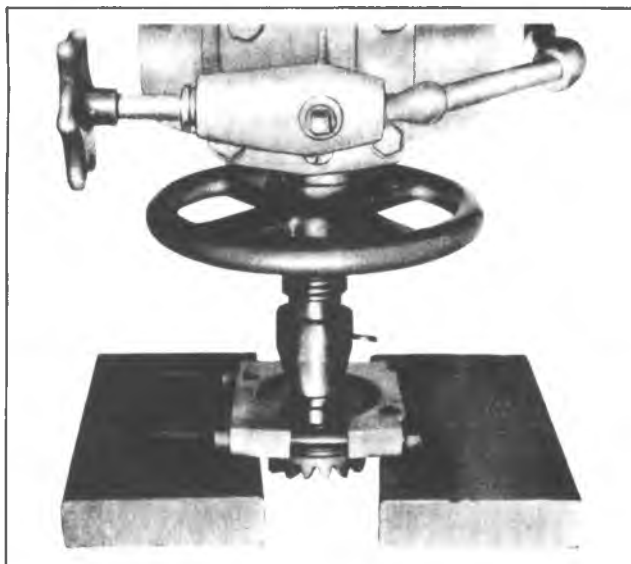

Fig. 4B-6H-Bearing Remover J-22912
4. Install a 1-1/2" to 1-3/4" diameter plug similar to (J-8107-4) on gear hub. Press against plug with ram of press to remove thrust ring. Keep all components in the proper order, Figure 4B-6H.
Replace cam plate and wave spring or clutch discs as necessary and reassemble as follows: See Fig. 4B-1H.